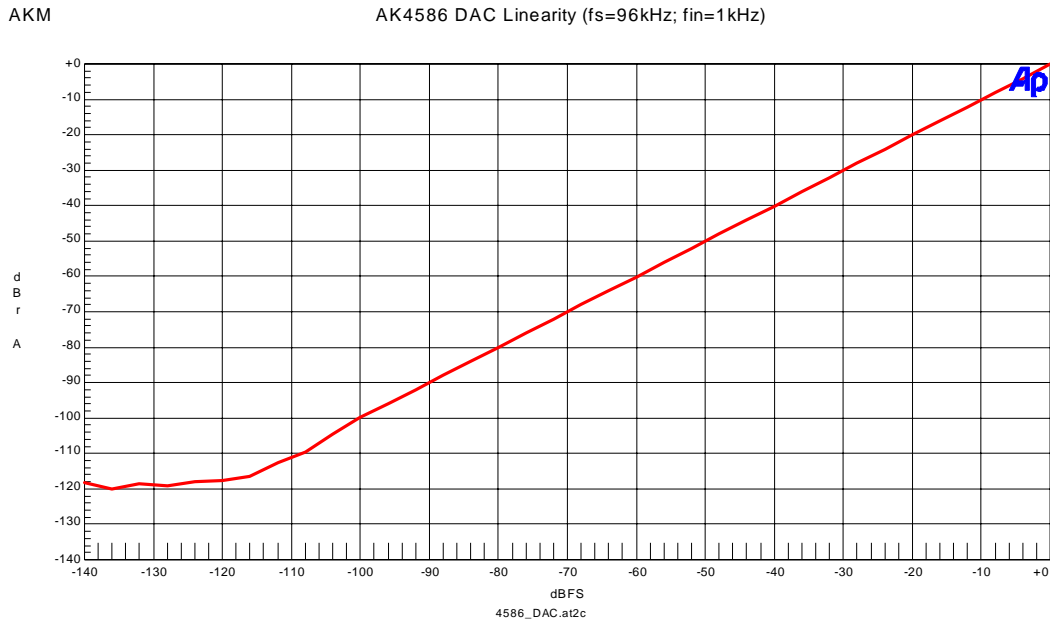

Figure 4-8. Linearity (fin=1kHz)
- Figure 4-8. Linearity (fin=1kHz)